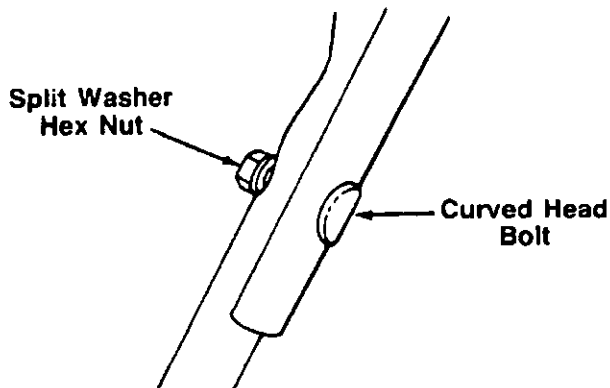

FIGURE 2.
- ➔ 2. Secure the left hand side of upper handle using the curved head bolt, split washer and hex nut as shown in figure 2.